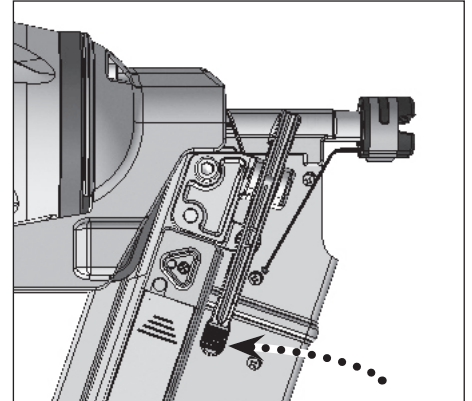

Figure 24 - Quick Clear Nose Lever
3. Press down on the Quick-Clear Nose (QCN) lever to disengage portion of nose barrel (See Figure 24).